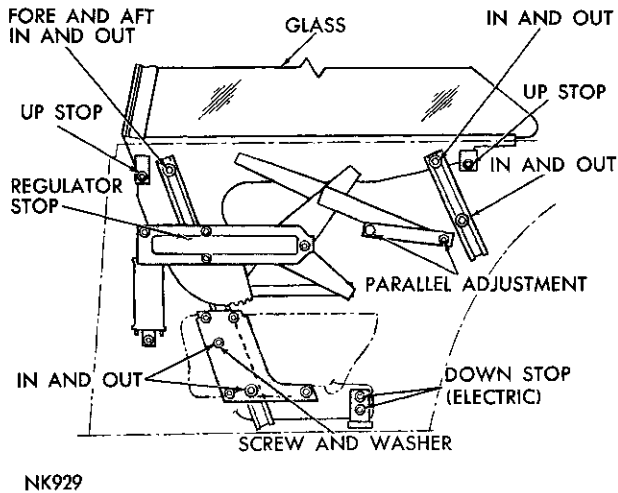

Fig. 96—Quarter Window Adjustments
Refer to Figure 96 for the adjustment points and methods of adjustment:
(7) Move the upper front track attachment forward so the weatherstrip of the window is against the front door window.
(8) Position the up stops against the lower frame of the window.
(9) Run the window down so the top of the glass is even or slightly below the belt line.
(10) Adjust the lower rear track attachment so the "boss" is against the outboard side of the inside panel.
(11) On manually operated regulators, position the stop on the regulator plate against the stop on the regulator sector. On electrically operated regulators, position the stop against the bumper (Fig. 96).
(12) Move the front track center support so it is positioned against the brace and tighten the screw securely.
(13) Operate the window, inspect alignment and test for ease of operation.
(14) Install the watershield, trim panel and regulator handle.